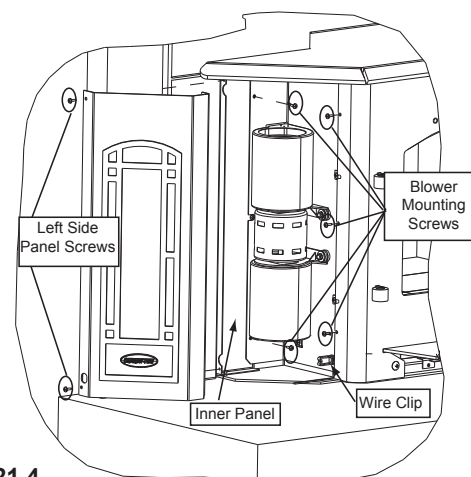

Figure 21.4
2. Slide blower mount with blower attached behind the face and secure with 5 screws provided, 3 on the right side and 2 on the left (**Figure 21.4**).